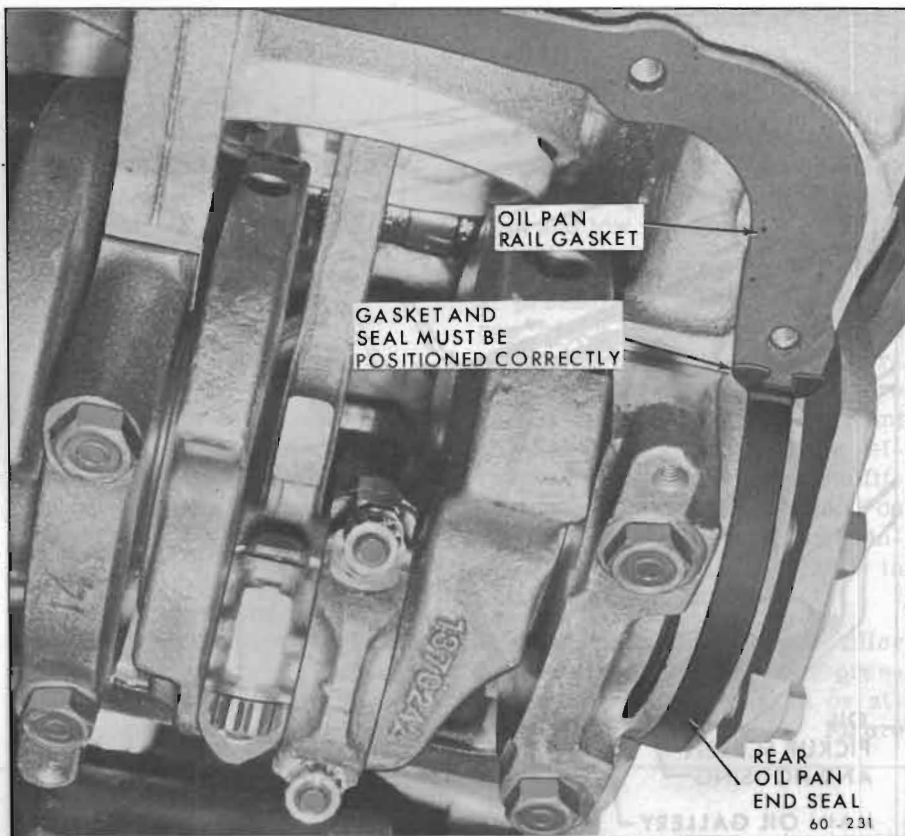

Figure 60-347—Oil Pan Gasket and Seal Installation
2. Apply non-hardening Permatex to a few spots on a new pan gasket (cork) and install on block. Make sure seal and gasket are properly fitted. See Figure 60-347.